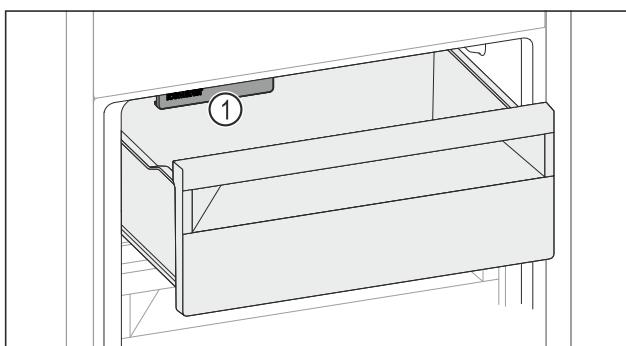

Fig. 154
- Watch out for the IceMaker Fig. 154 (1).